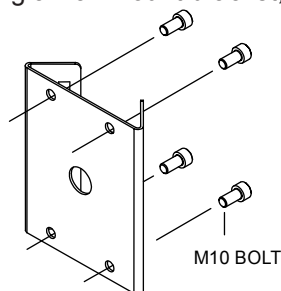

FIG. 25
1. Fix the wanted bracket on the pole mount bracket with 4 ea of M10 BOLT before you install the pole mount bracket. (FIG. 25)